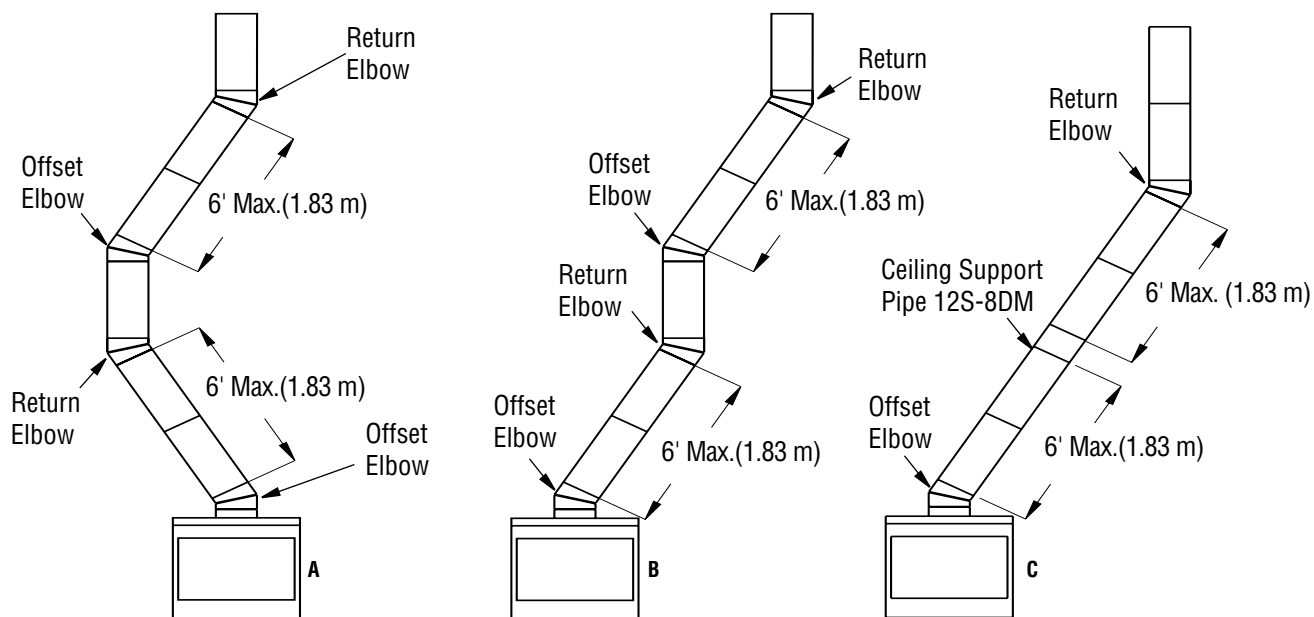

Figure 9 - Typical Offset Installation
1. To achieve desired offset, you may install combinations of 12", 18", 24", 36" and 48" length of double wall pipe (*see offset chart, Page 10, and Figure 9, Page 9*).
3. Maximum length of pipe between supports (return elbow or 12S-8DM) is 6' of angle run. Maximum of two 6' angle run sections per chimney system (*see Figure 9, Page 9*).